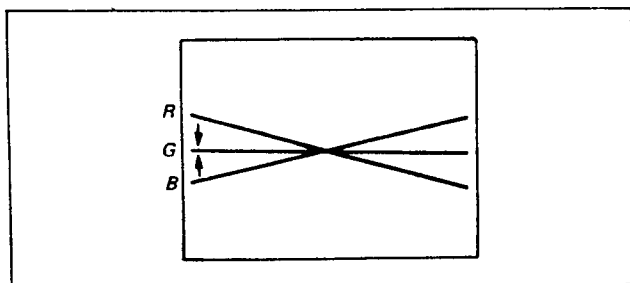

Fig. 2-4-2 XCV
- 7) Adjust the vertical cross misconvergence (XCV) by moving the DY up or down. (see Fig. 2-4-2)